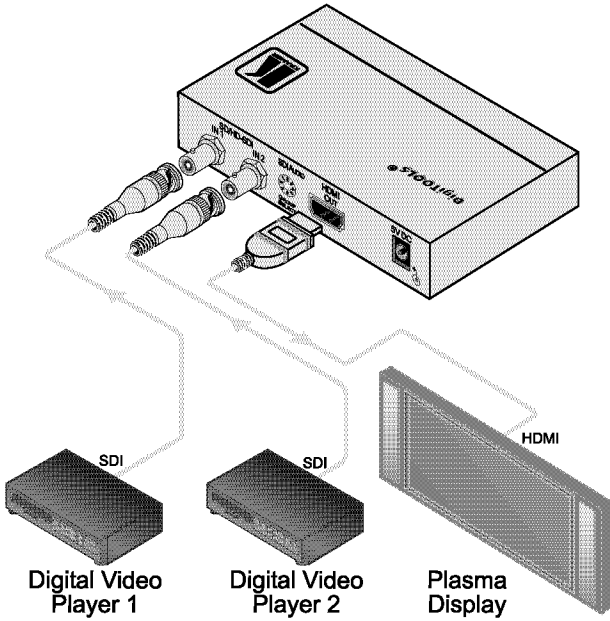

Figure 2: Connecting the FC-321 SD/HDMI to HDMI Converter/Switcher
To connect the **FC-321**, as the example in *Figure 2* illustrates, do the following1:
5. Connect the 5V DC power adapter to the power socket and connect the adapter to the mains electricity (not illustrated in *Figure 2*).